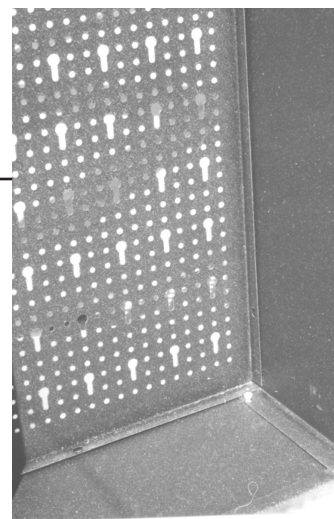

Figure 2
2. Set the Hanging Tool Cabinet so that the Back Panel (#8) will be supported against a workbench, wall or floor. Lay the edge of one (1) Back Panel (#8) inside and at the rear of the Bottom Panel (#12)-see Figure 2. Repeat for the remaining two (2) Back Panels (#8).